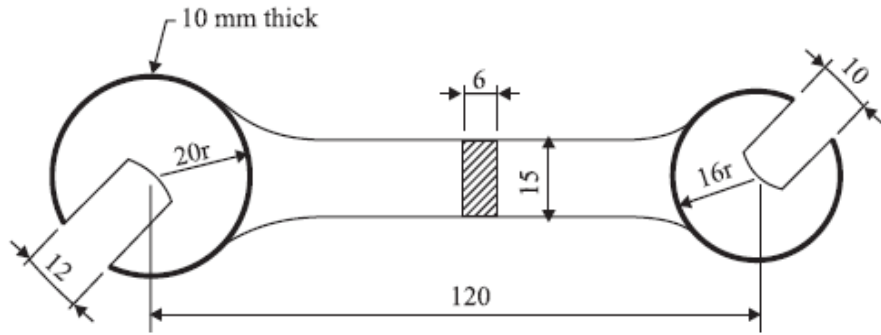

Figure 14
10. Estimate the cost of manufacturing high carbon steel spanner as shown in Figure 14 is to be made by die forging. The following data are available: